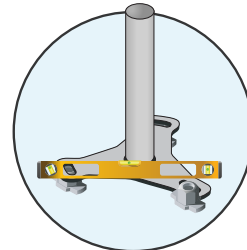

Fig 5.
8. Check baseplate to make sure it is level. (Fig 5) Knock the relevant anchors further into the ground if necessary to bring the plate level. (Remembering to use the hammer cap to avoid damaging the anchor top)